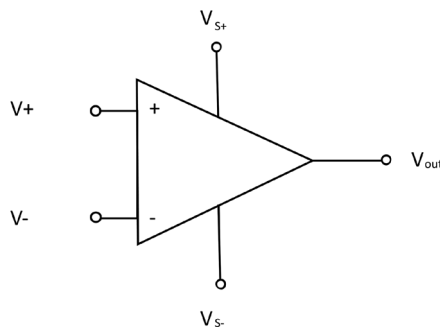

FIGURE 15.1 Op-amp symbol on a circuit board diagram.
LAB FIGURE 15.1 (1) Schematic of our lab circuit.
LAB FIGURE 15.1 (2) How to find pin 1 on a 7448 decoder.